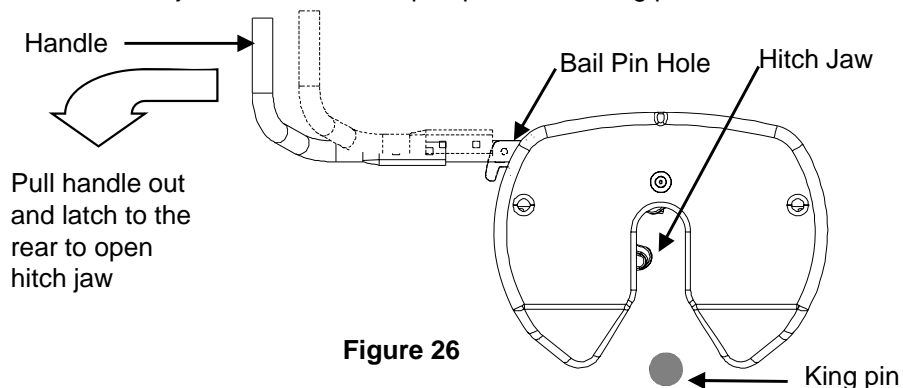

Figure 26
3. Remove bail pin from bail pin hole(see Figure 26). Then pull handle out and rearward to hold open.
4. With handle in the open position (See Figure 26), back truck slowly into trailer. As king pin completely enters head, jaw will spring closed around king pin and handle will return to the closed position. If the handle does not return to the closed position, then try to push the handle back to the closed position. If handle does not return to the closed position then move the truck slightly forward or rearward until the handle returns to the closed position. (See Figure 27)
7. Pull hitch handle out completely until it latches in open position so that king pin is no longer securely grasped by hitch jaws (see Figure 26). Trailer is now free from hitch and truck. If handle does not pull out, there is probably pressure against the jaw. To relieve this pressure, back the truck slightly. Reset truck emergency brake. Then pull hitch handle out completely until it latches in open position.